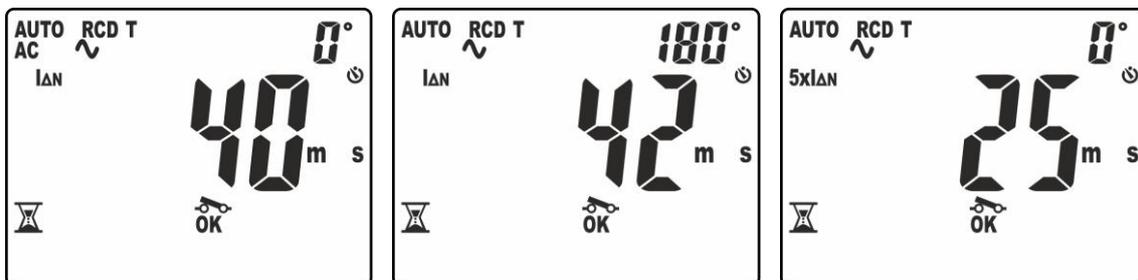

Fig. 32: Tripping time in AUTO mode – Screen 1
10. The first test carried out is the one with test current $I_{\Delta n}$ and polarity 0° . The result of partial measurement is shown on the display with indication “OK” or “NOT OK” (see Fig. 32 – left side). Symbol “” flashing indicates that the RCD must be reset.
11. The second test carried out is the one with test current $I_{\Delta n}$ and polarity 180° . The result of partial measurement is shown on the display with indication “OK” or “NOT OK” (see Fig. 32 – middle). Symbol “” flashing indicates that the RCD must be reset.
12. The third test carried out is the one with test current $5xI_{\Delta n}$ and polarity 0° . The result of partial measurement is shown on the display with indication “OK” or “NOT OK” (see Fig. 32 – right side). Symbol “” flashing indicates that the RCD must be reset.